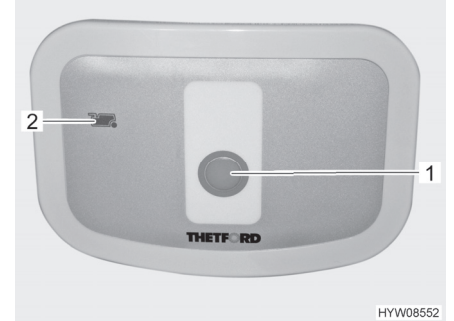

Fig. 83 Flush button/indicator lamp (Thetford toilet)
- For flushing, press the blue flush button (Fig. 83,1).
The indicator lamp (Fig. 83,2) lights up whenever the sewage tank has to be emptied.